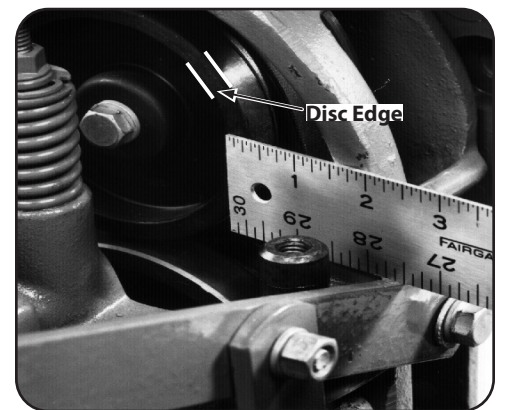

Figure 5-18
1. Measure the width of the outside edge of the disc as shown in Figure 5-18. Replace the disc before the rubber edge wears to a thickness of $1/8''$ or less. Failure to do so could cause the steel underneath the rubber to damage the transmission pulley.